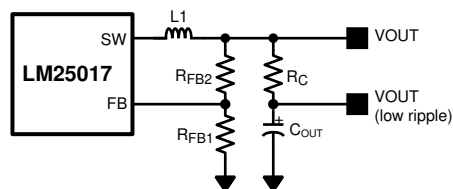

Figure 7-1. Low Ripple Output Configuration
This regulator regulates the output voltage based on ripple voltage at the feedback input, requiring a minimum amount of ESR for the output capacitor (C_{OUT}). A minimum of 25-mV ripple voltage at the feedback pin (FB) is required for the LM25017 device. In cases where the capacitor ESR is too small, additional series resistance may be required (R_C in Figure 7-1).
For applications where lower output voltage ripple is required, the output can be taken directly from a low ESR output capacitor, as shown in Figure 7-1. However, R_C slightly degrades the load regulation.